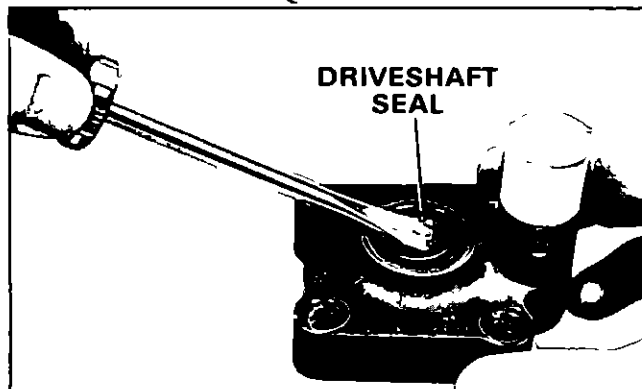

Figure 20. Removing Driveshaft Seal.
- A Pry seal out of bore of pump body Figure 20